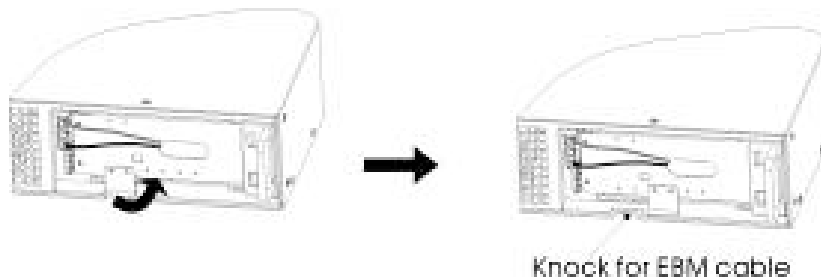

Figure 9: Removing the UPS Cable Knockout
b) On the bottom of the UPS front cover, remove the EBP cableknockout (see Figure 9).